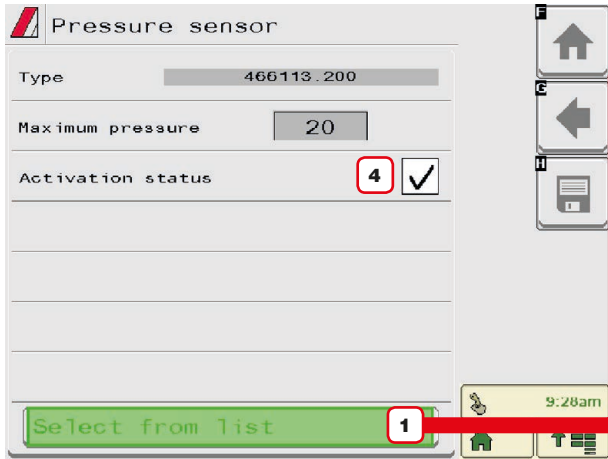

Fig. 41
- The relevant configuration data will be automatically loaded (Fig. 41).